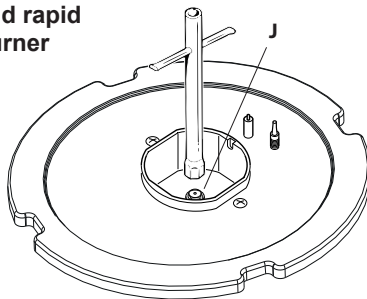

Fig. 2.2a
- Using a wrench, substitute the injectors “J” (figs. 2.2a, 2.2b, 2.2c) with those most suitable for the kind of gas for which it is to be used.